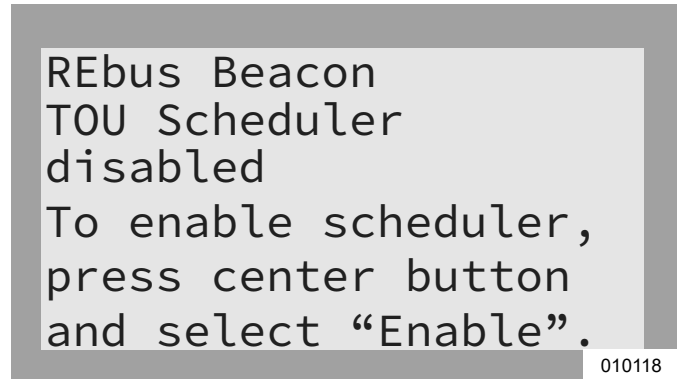

Figure 6-26. Disabling TOU Scheduler (3 of 3)
4. See Figure 6-26. The status line on the Beacon device page will read Disabled.